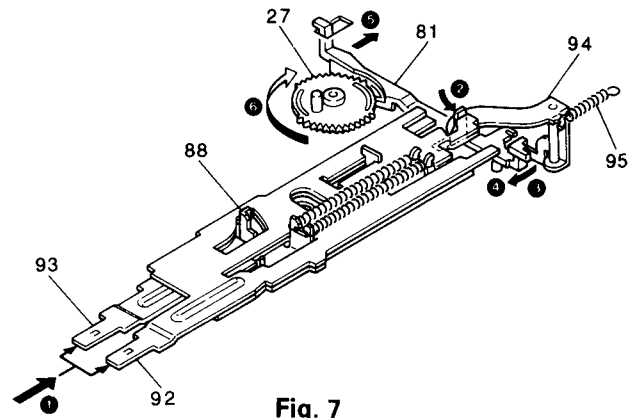
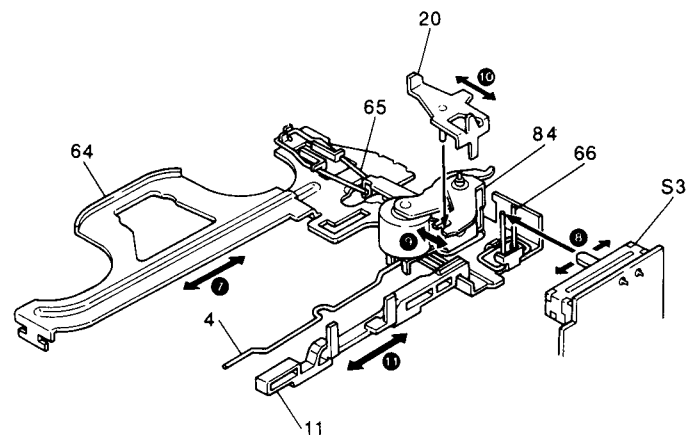
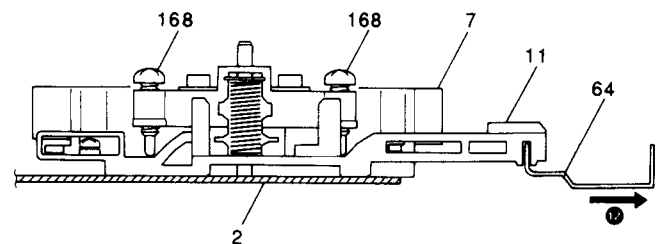

Fig. 7
Fig. 8
Fig. 9
1. When pressing FF/REW (92 and 93) levers at the same time (**1**), the levers are placed into a slot on the PC (Play Change) plate (94) in direction of arrow (**2**) in Fig.7.
2. The PC plate (94) moves in the direction of arrow (**3**), trigger arm (81) is kicked in the direction of arrows (**4**) and (**5**), thereby releasing the turn-over gear (27).
3. The turn-over gear (27) is rotated in the direction of arrow (**6**) by ED (End Detector) gear (26), which moves main plate (64).
4. The main plate (64) slides in direction of arrow (**7**) in Fig.8 causing the following part movements;
- a) Head switch (10) movement is changed per arrow (**8**).
- b) Force transferred from pinch roller-spring (4) changes the relation of pinch roller and capstan to each other, per arrow (**9**).
- c) Seesaw plate (20) is moved by the main plate and seesaw plate spring (65), and moves see-saw working plate (84). All FF/REW operation is performed by this seesaw plate movement. See arrow (**10**).
- d) The shift plate (11) is moved in direction of arrow (**11**), and head moves up and down per arrows (**12** , **13** and **14**) in Fig.9.